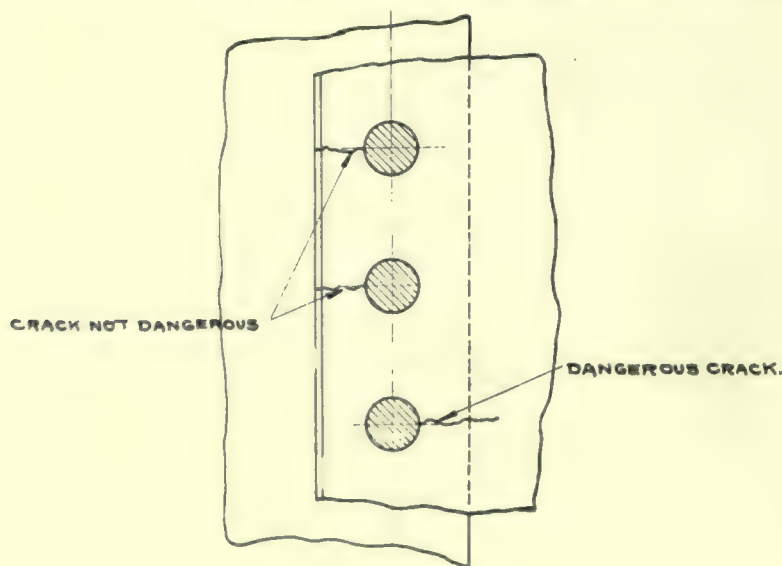

Fig. 7.
(10) The heavier the plate the more liable it is to become overheated. This is especially true if foreign substances are allowed to adhere to the plate. Frequently the plate of the girth seams of a tubular boiler crack from the rivet hole to the edge of the plate, as shown in Fig. 7, which is spoken of as fire-cracks.